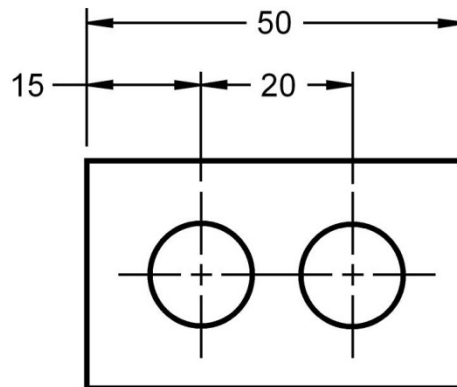

Figure 2-23: Dimensioning functionally important features.
- b) Dimensions should be given between points or surfaces that have a functional relation to each other (slots, mating hole patterns, etc...). Figure 2-23 shows a part that has two holes that are designed to mate up with two pins on another part. Therefore, the distance between the holes is more important than the distance of the second hole from the datum feature. There would be a similar dimension on the other part specifying the distance between the pins to ensure proper mating.